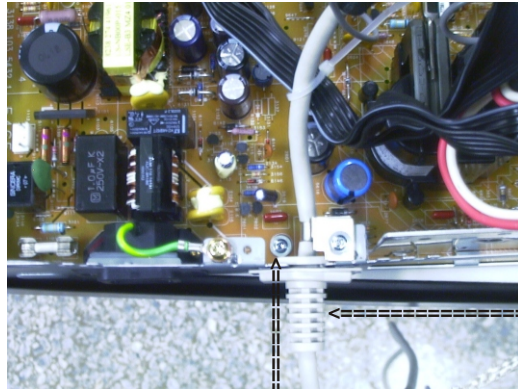

Fig. 16
- Remove Interface cable from bottom tray as shown in Fig. 16.
- Remove a screw from Main panel as shown in Fig. 16.